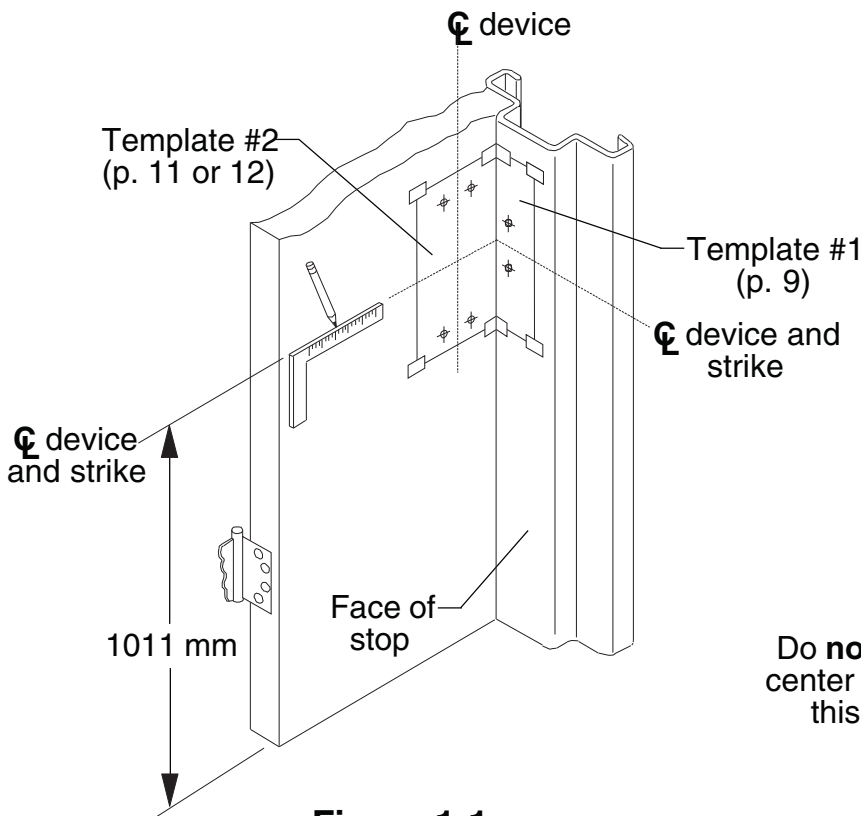

Figure 1-1
- 1.2. Mark device and strike centerline locations from finished floor (Figure 1-1).
- 1.4. For single door, tape Template #1 (p. 9) to frame and mark for 299 or 299-F strike (Figure 1-1).